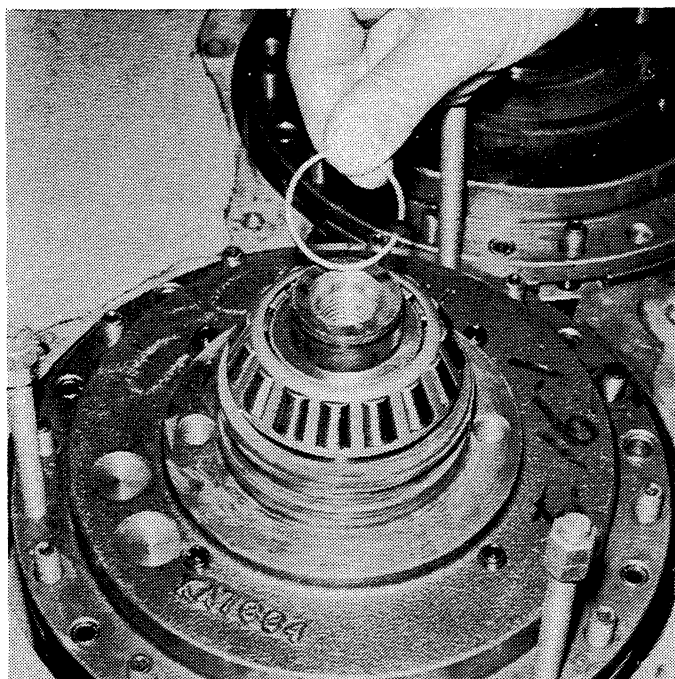

Figure 6-11. Piston Ring Removed from Forward Shaft.
2. Remove the piston ring (Figure 12-2, 15) from the rear end of the input shaft. See Figure 6-11.